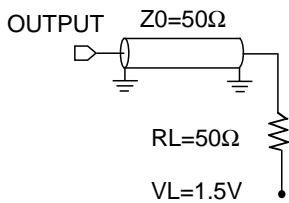
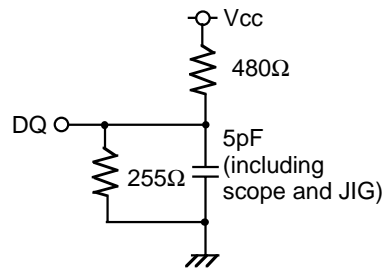

Fig.1 Output load
Fig.2 Output load for t_{en}, t_{dis}
(1) MEASUREMENT CONDITION
- Output loads Fig1, Fig2
5. Transition is measured $\pm 500\text{mV}$ from steady state voltage with specified loading in Figure 2.